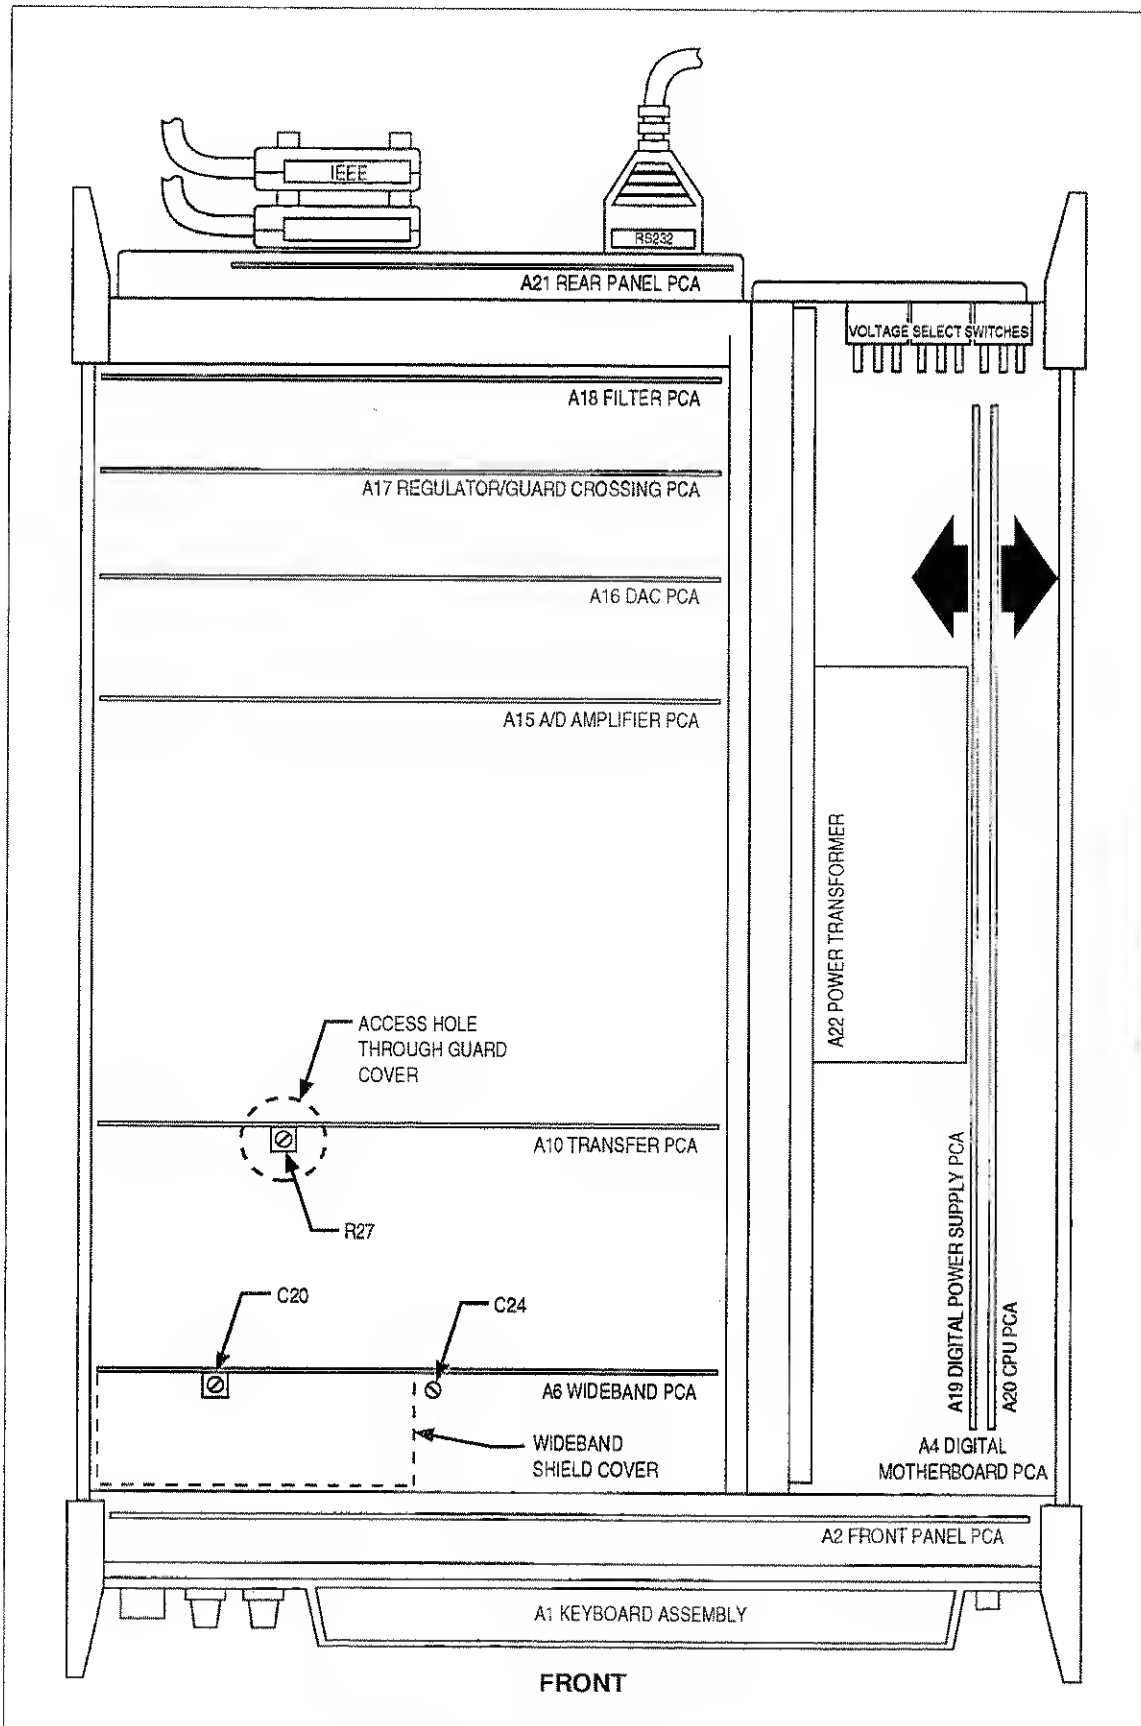

Figure 3-14. Location of R27 (Transfer), and C20 and C24 (Wideband)
- Locate the access hole for potentiometer R27 on the guard cover as shown in Figure 3-14.
4. Referring to Figure 3-14, locate trimmer caps C24 and C20. C20 is accessed through a hole in the top of the small shield cover.